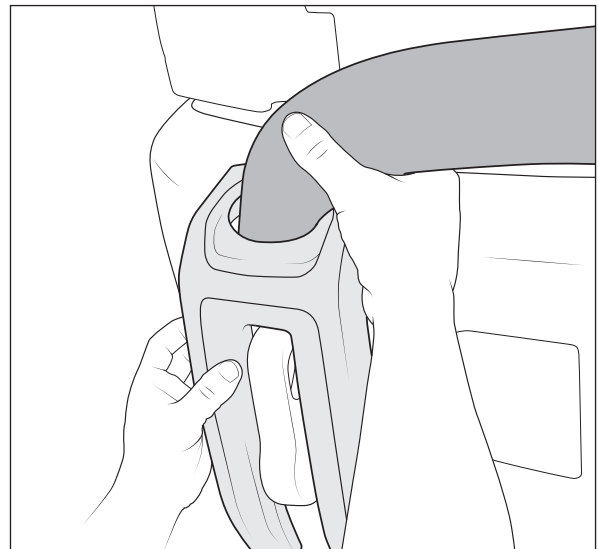

Figure 20
2. Slide the second bezel on to the end of the low tube then position together in place on the bumper (fig. 20).